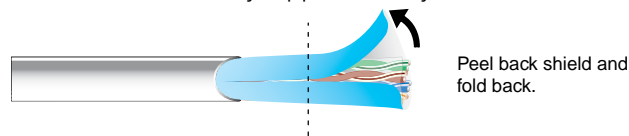

Figure 22. Peeling Back the Cable Shielding
1. Peel back the cable shielding (figure 22) from the end of the cable the length of the RJ-45 connector body (approximately 7/8 inch [2.2 cm]) and fold it back.